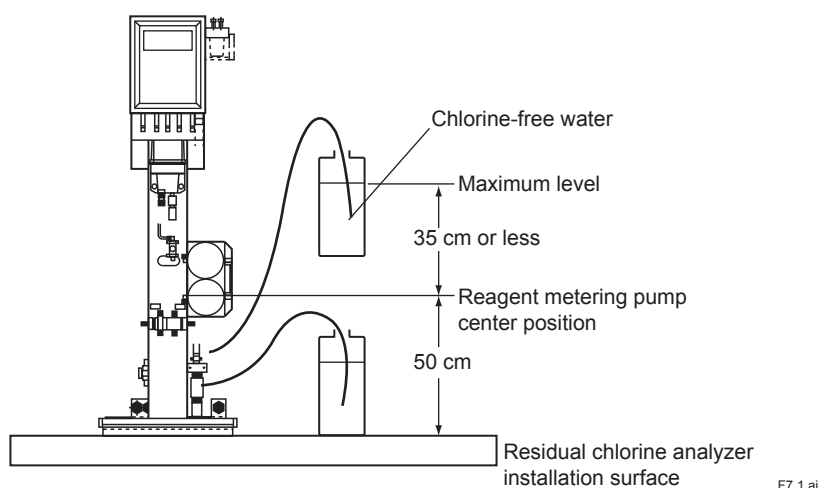

Figure 7.1 Chlorine-Free Water Level
- (2) Set the vessel containing chlorine-free water so that the water level satisfies the conditions shown in Figure 7.1.
Set the vessel containing the calibrating standard solution in accordance with Figure 7.1. Immerse the opposite end of the tube connected to the standard solution tubing connecting port in zero calibration in the calibrating standard solution. Now the calibrating standard solution can be fed to the detector (ensure that the "sample water/standard solution" selector valve is turned to the "standard solution" position).